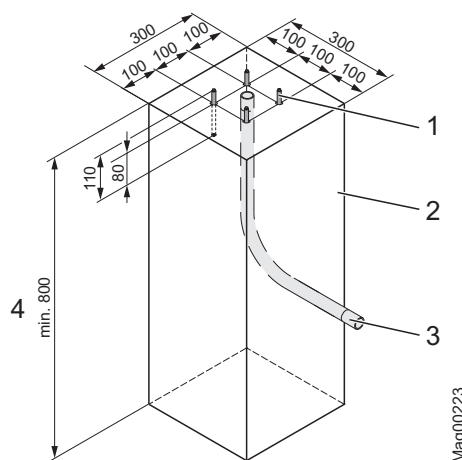

Fig. 19: Foundation plan for nesting post and light barrier post
1. Dig foundation hole pursuant to and Fig. 19.
2. Place empty conduit pursuant to Fig. 19 in the foundation hole.
4. Fill concrete foundation pursuant to Fig. 19.